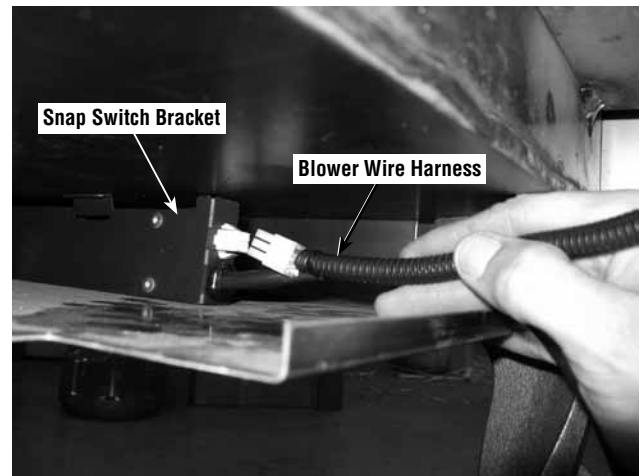

Figure 20
Step 5. Plug the blower harness into plug on rear of snap switch bracket. See **Figure 20**.
Step 6. Visually inspect wires are clear of contact with firebox. See **Figures 20 through 21**.